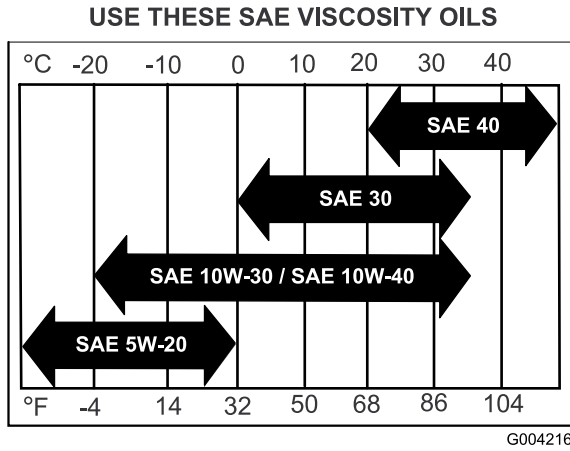

Figure 26
**Viscosity:** Refer to the table (Figure 26).